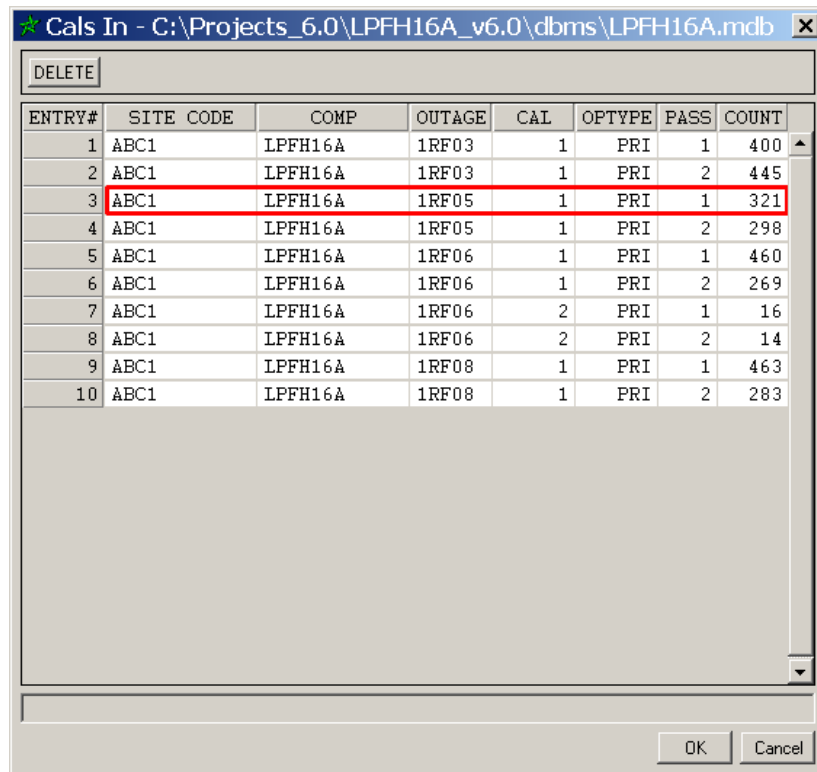

Figure 28. Database | Upload Reports | Import Report Dialog | View Menu | All Database Cals | Cals In Dialog
- **View | All Database Cals** displays the **Cals In** dialog shown in Figure 28. This dialog allows the user to view all the cal groups that have been uploaded to the *report* table of the currently opened database and/or permanently delete selected cal groups. The columns on this dialog are self-explanatory. For example, the highlighted row (*Entry# 3*) shown in Figure 28 indicates:
To delete a cal group from those listed in the **Cals In** dialog, click on the entry to highlight it as shown in Figure 28, then click the **Delete** button in the upper left of the dialog. DBMS will display a **Yes/No** message asking if you want to delete the selected cal group. Click **Yes** to delete the selected cal group; else, click **No**. Repeat this step for additional cal groups you wish to delete.